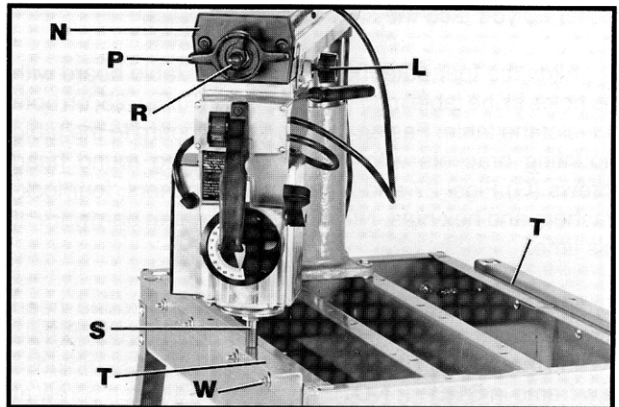

Fig. 22
7. Loosen track arm clamp knob (P) Fig. 22. Rotate index knob (R) Fig. 22, to release positive stop and simultaneously swing track arm (N) to the left until arbor shaft (S) is directly over left front table mounting bracket (T) as shown. Tighten clamp knobs (L) and (P) Fig. 22.
8. Lower track arm (N) Fig. 22, until arbor shaft (S) lightly contacts left front table bracket (T). **IMPORTANT: DO NOT CHANGE THE HEIGHT OF THE TRACK ARM UNTIL BOTH TABLE MOUNTING BRACKETS (T) HAVE BEEN ADJUSTED.** Make certain nut (W) Fig. 22, is tight enough to hold front table mounting bracket in (T) in position.